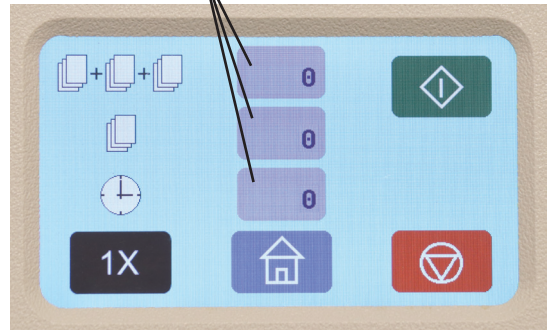

Fig. 23b
2. In the AutoBatch mode insure all windows are set to “0”. (fig. 23b)